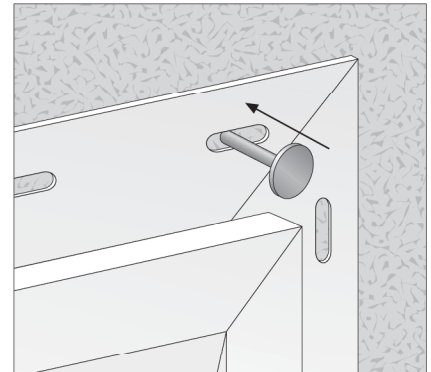

Figure 5
7. Securely fasten the door frame to the rough framing through the center of the slots in the nail fin (figure 5). Place fasteners in the slots closest to each corner and every other slotted nail hole as a minimum, (**please check local codes for minimum on center spacing of fasteners**).